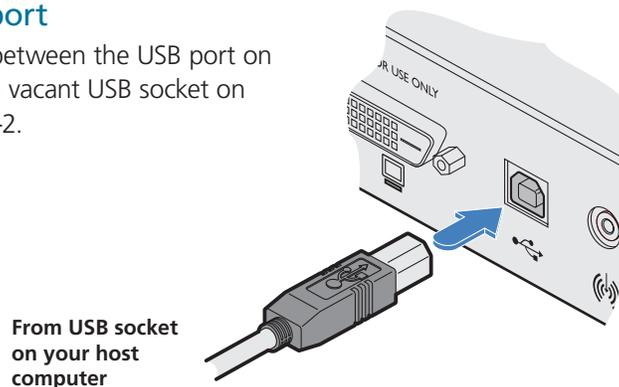

Figure 3-2. Connecting a USB link to the local module.
1. Connect the supplied USB cable between the USB port on the local module rear panel and a vacant USB socket on your host computer. See Figure 3-2.